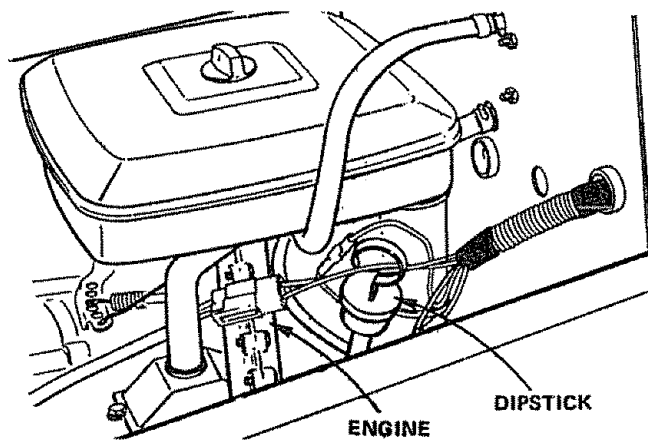

FIGURE 7
1. This engine has been shipped filled with oil. Check Engine Oil Level with Tractor on level ground. Wipe Dipstick (Fig. 7) clean, push it in tight for a few seconds, remove and read Oil Level. If necessary, add Oil until "FULL" mark is reached.